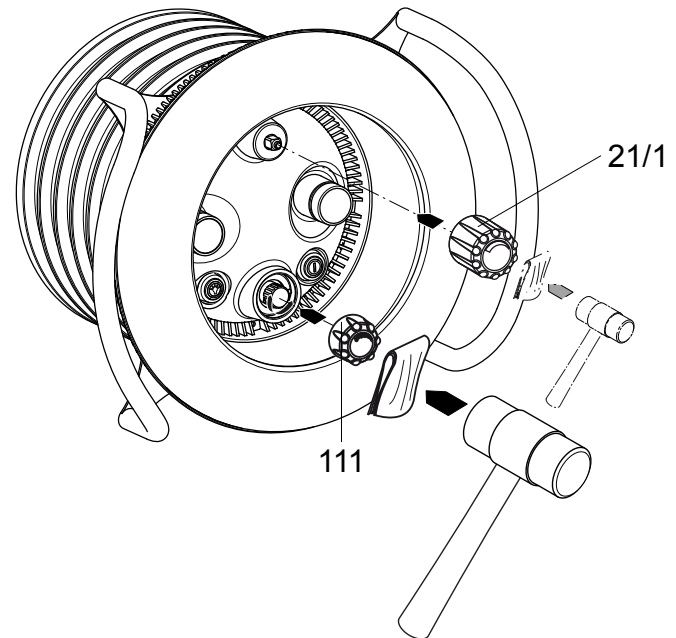

Figure 23
11. Mount the volume control knob (part# 21.1) and air regulator knob (part# 111) by means of a rubber mallet and a protective cloth. (See Figure 23)